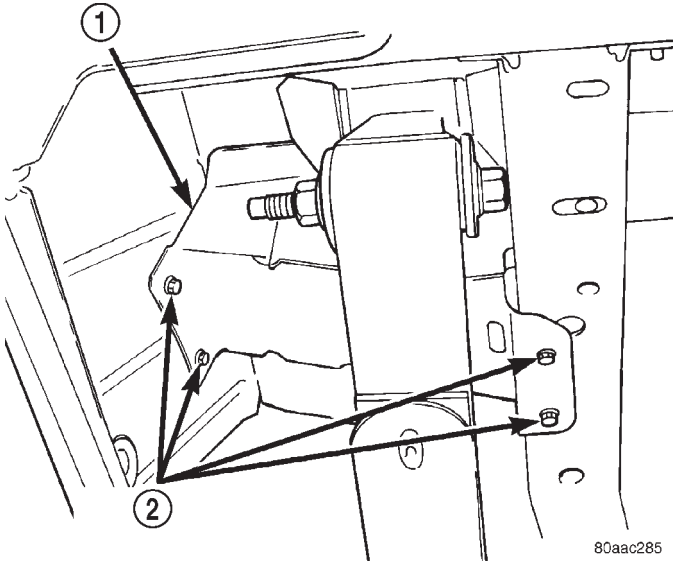

Fig. 33 Fuel Hose Shield
- (1) Disconnect negative battery cable at battery.
- (2) Release fuel system pressure. Refer to the Fuel System Pressure Release Procedure in this group.
- (3) Raise and support vehicle.
- (4) If Equipped: Remove fuel tank skid plate. Refer to Group 23, Body for procedures.
- (5) Remove 4 fuel hose shield mounting bolts and remove fuel hose shield (Fig. 33) from body.